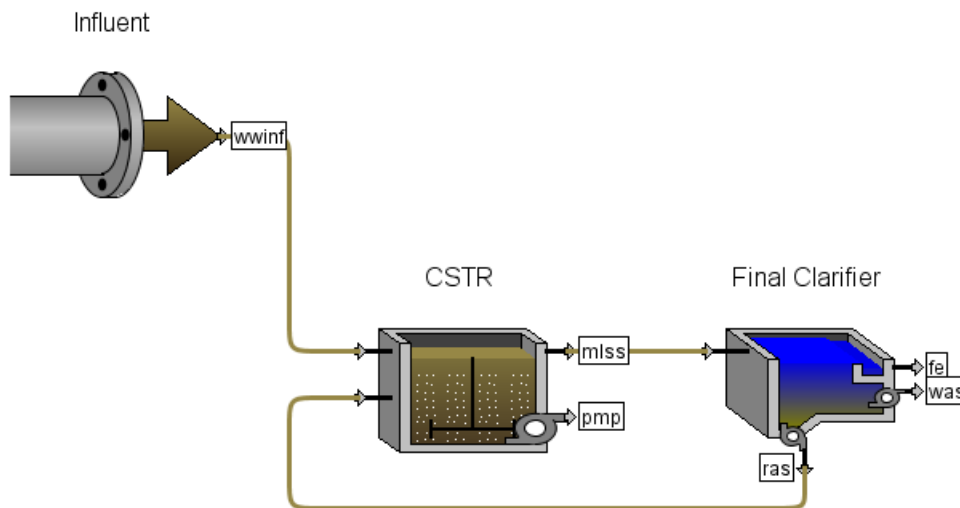

Figure 13-2 - Tutorial 13 Layout
3. **Create the layout** as shown in **Figure 13-2** with a *codstates* influent model, *mantis2* CSTR model and *simple1d* clarifier model.